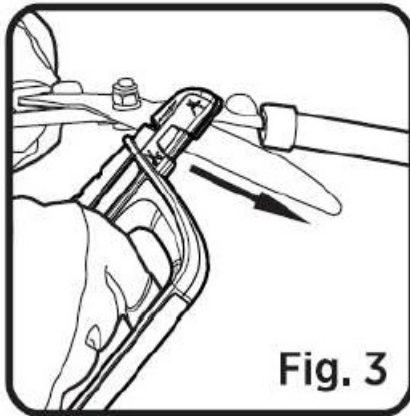

Fig. 3
- Hold the sharpener at a slight angle to the blades. Stroke the sharpener along the cutting edge from heel to tip in direction of indicator arrows. (See Fig. 3)